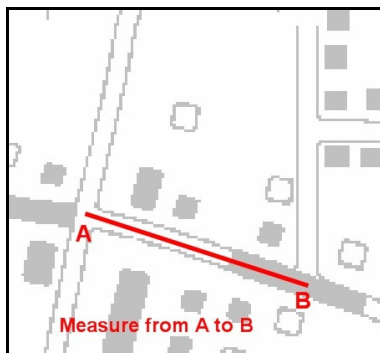

Figure 2
- Measure the distance between Point A and Point B in Figure 2.
- At the *Select A Known Point On The Background Image* prompt, click Point A as shown in Figure 2.
- At the *Select Another Known Point On The Background Image* prompt, click Point B as shown in Figure 2.